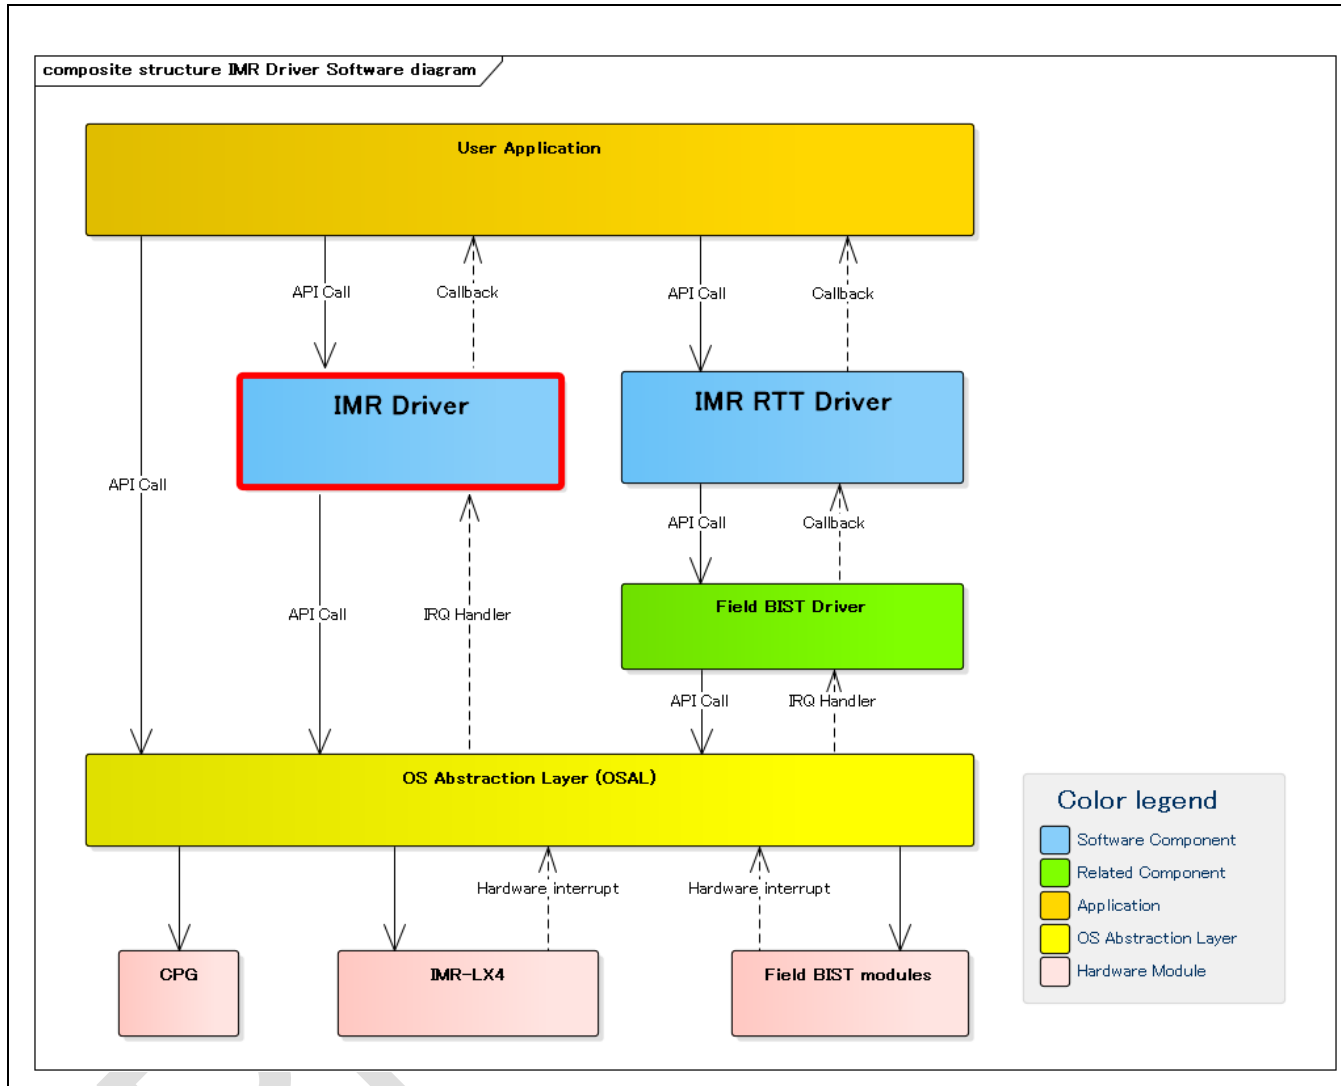

Figure 1-2 Block diagram
The block diagram of IMR Driver is described in Figure 1-2.
*Table 1-1* describes the outline of each component in *Figure 1-2*.
*Table 1-2* describes the outline of each interrupt in *Figure 1-2*.